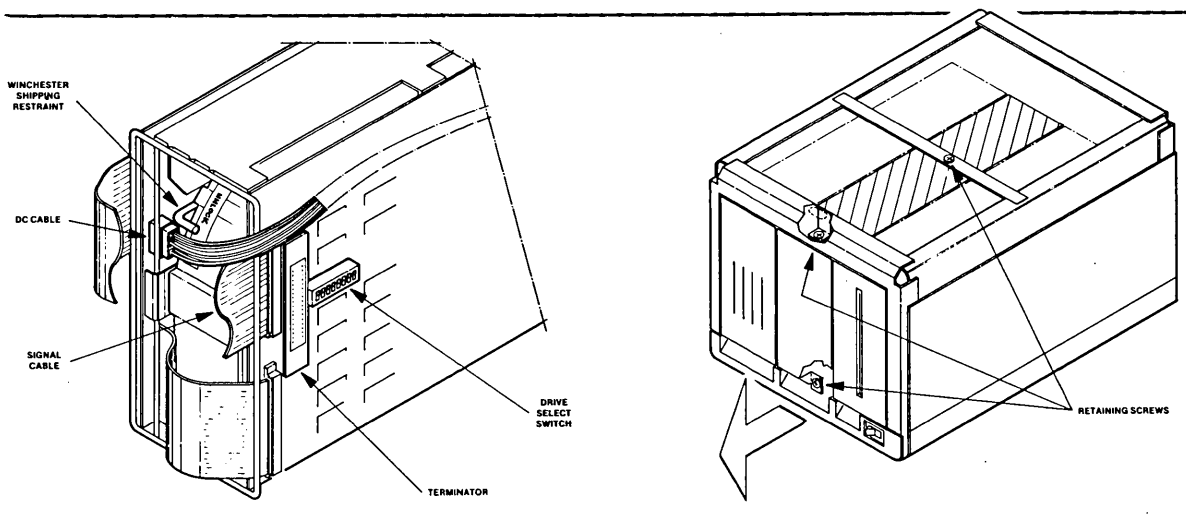

Figure 4-6. Winchester Drive Retaining Screw Locations
5. Disconnect the power cable and the signal cable from the Winchester drive. (Refer to Figure 4-6.)